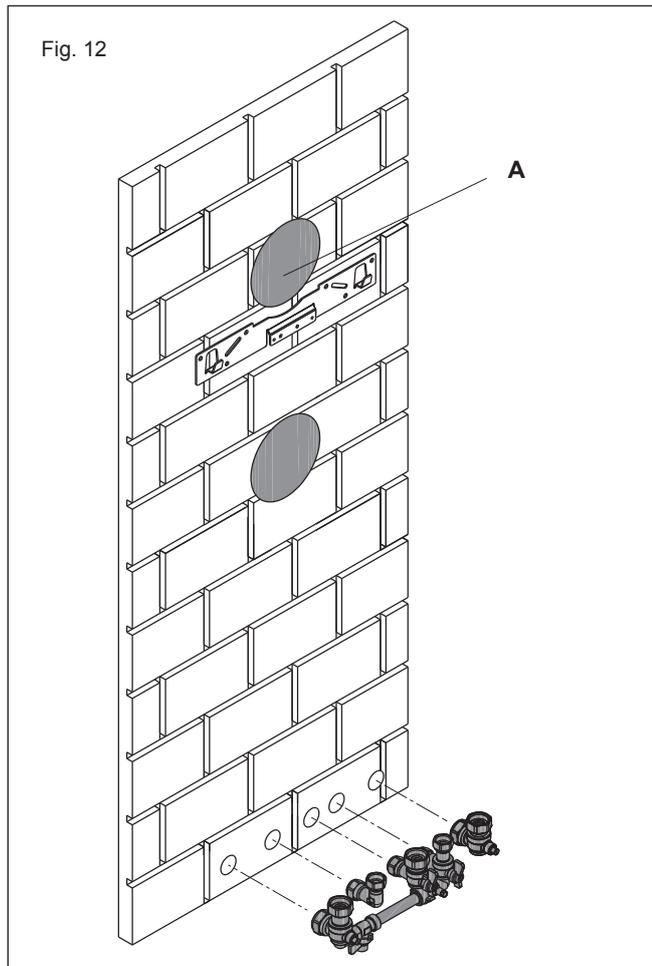

Fig. 12
When the position of the appliance has been decided – using the template supplied – carefully mark the position of the wall mounting bracket (see Fig. 12) and flue-hole (if applicable).
Fig. 12: Using the template (A) provided with the kit, mark and drill a 125mm hole for the passage of the flue pipe. The hole should be drilled to ensure any condense fluid that forms, is allowed to drain back to the appliance. The fixing holes for the wall-mounting bracket should now be drilled and plugged, an appropriate type and quantity of fixing should be used to ensure that the bracket is mounted securely. Once the bracket has been secured to the wall, mount the appliance onto the bracket.